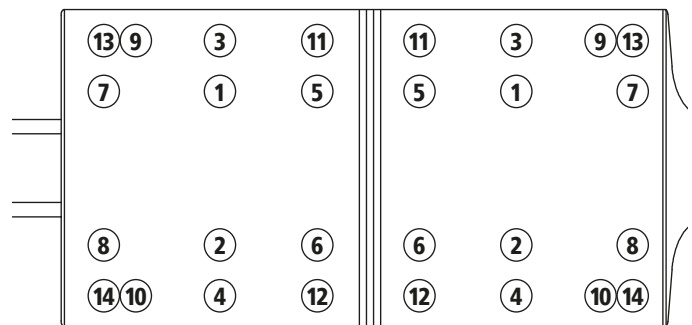

Figure 58: Clinch Rivets Criss-Cross from Centre Outwards
5. Clinch rivets using riveter following the order shown in the figure. Refer Figure 58.